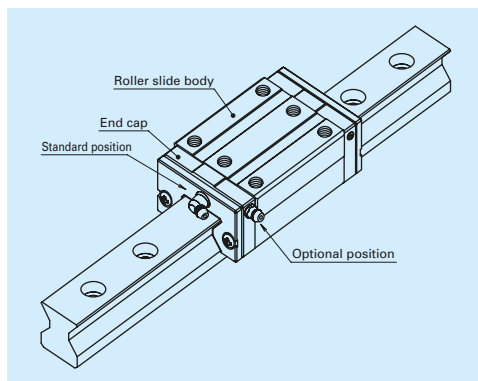

Fig. 11 Mounting position of lubrication accessories
- The standard position for grease fittings is at the end face of the roller slide, but we can mount them on the side of the end cap for as an option. (Fig. 11) Please consult NSK for the installation of grease or tube fittings to the roller slide body.